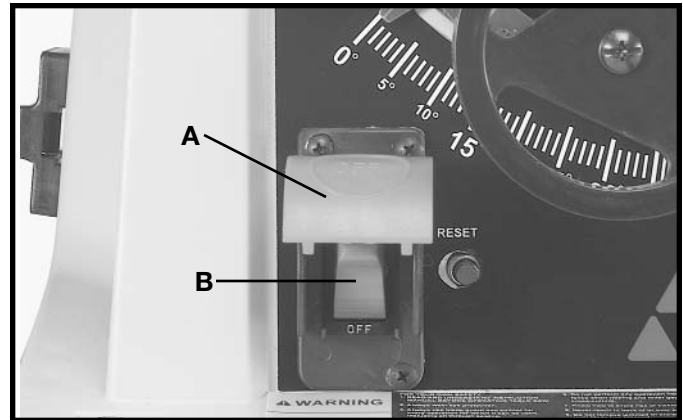

Fig. 41
1. The on/off switch is located underneath the switch shield (A) Fig. 41. To turn the saw **"ON"**, move switch trigger (B) to the up position.